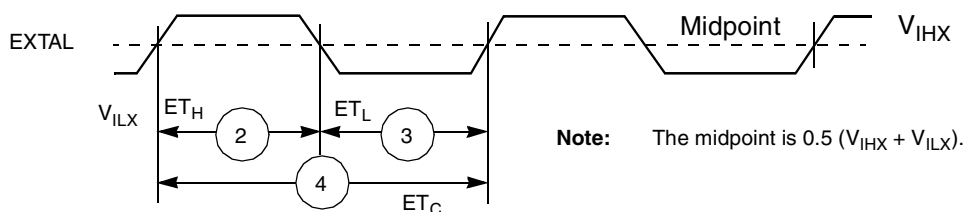

Figure 2-2. External Input Clock Timing
**Note:** If an externally-supplied square wave voltage source is used, disable the internal oscillator circuit after boot-up by setting XTLD (PCTL Register bit 2 = 1—see the *DSP56321 Reference Manual*). The external square wave source connects to EXTAL and XTAL is not used. **Figure 2-2** shows the EXTAL input signal.